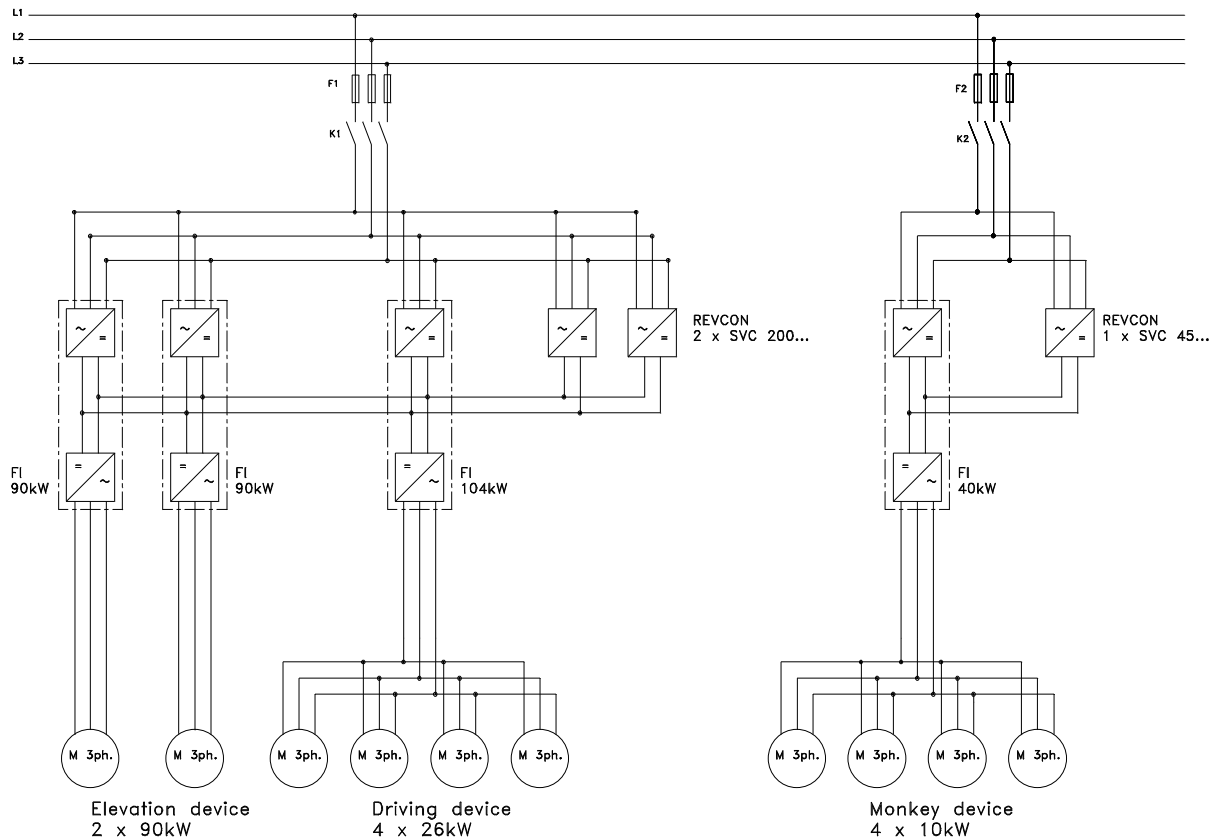

Figure 4.5.1
7. At these terminals one ore more controllers (even with different power ratings) may be attached, like it shown in figure 4.5.1. Even if several controllers are attached, the wires have to be as **short and low impedance** as possible!
Within greater plants several power feedback units may be coupled. Figure 4.5.1 shows an example of a crane system with some possible combinations.